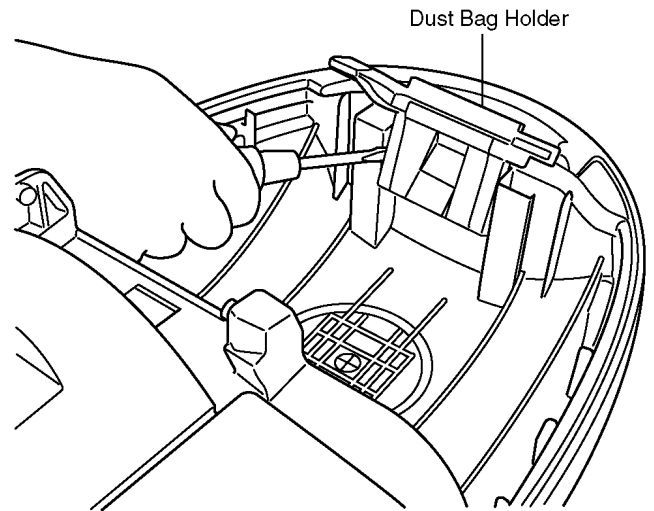

Fig.7
1. Insert a regular screwdriver - into the fitting section at the end of dust bag holder, widen it downward lightly by prying, and remove the dust bag holder. (Fig.7)